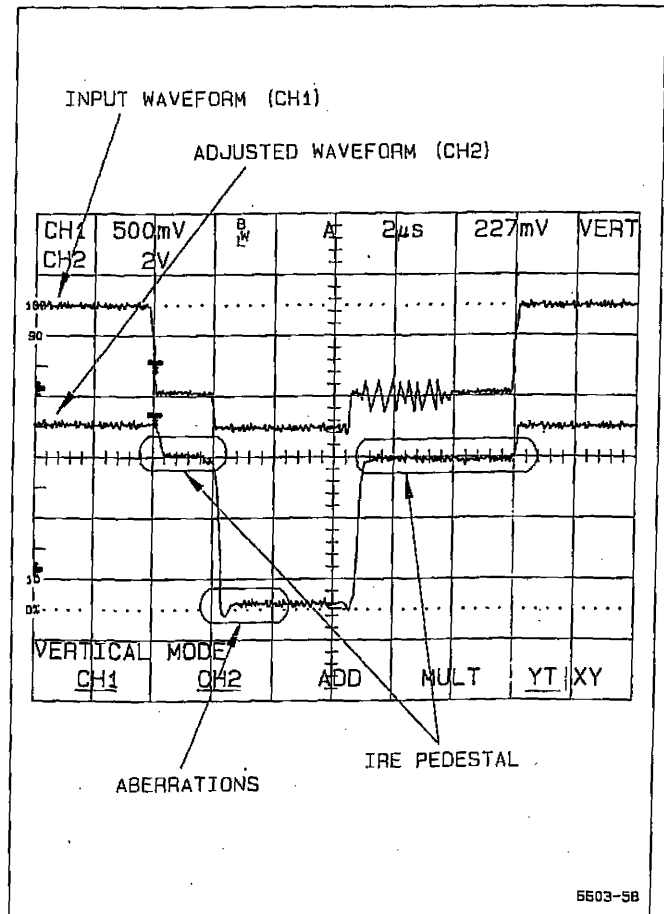

Figure 5.12 Input and output (after adjustment) waveforms.
d. Set the generator output for a field square wave producing a 100 IRE pedestal output for all lines. One line of video, with sync tip and color burst, should be displayed on screen in CH 1. (See top waveform in Figure 5-12.)
moves up slightly. Adjustment is correct when the output is not overdriven, with the IRE pedestal missing on the rising and edges, or underdriven, with excessive aberrations on the bottom of the waveform. (See bottom waveform in Figure 5-12.)